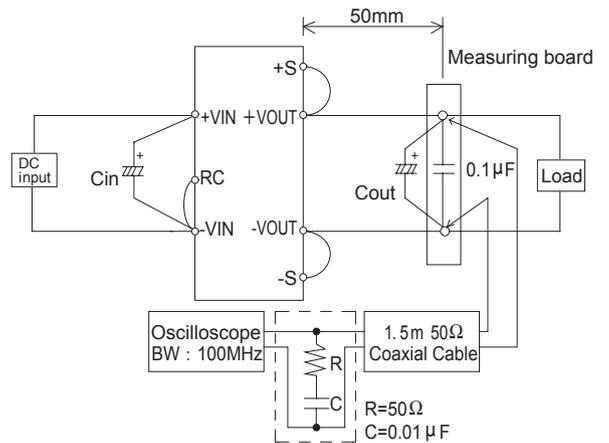
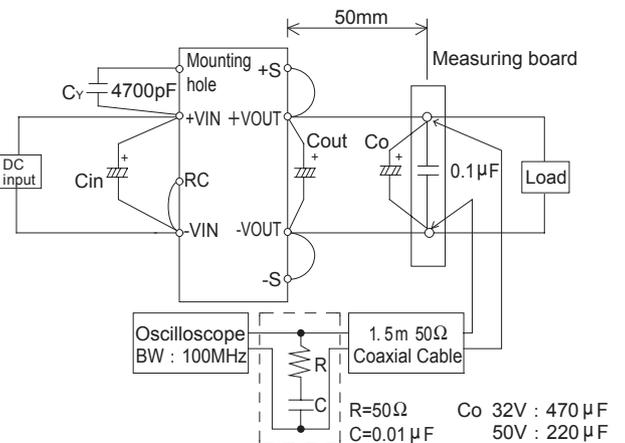

Fig.2.4 Method of Measuring Output Ripple and Ripple Noise (CQHS250)
Fig.2.5 Method of Measuring Output Ripple and Ripple Noise (CQHS300/CQHS350)
■ The specified ripple and ripple noise are measured by the method introduced in Fig. 2.4 and Fig.2.5.